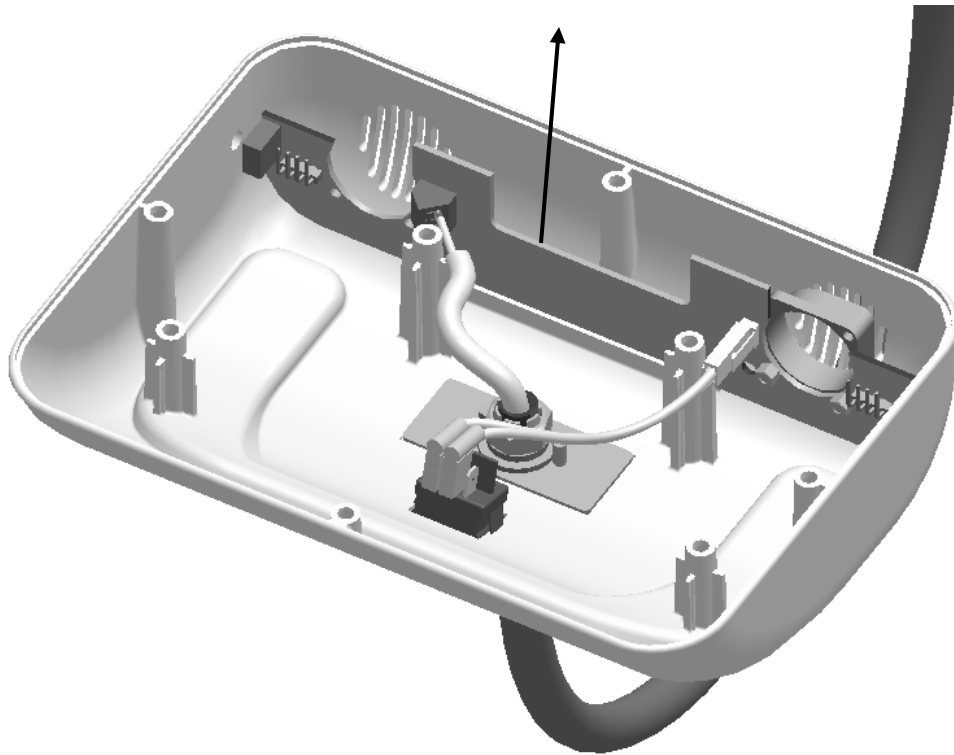

FIGURE 4
2. Remove the Current PCB by pulling it out of the light enclosure as shown in figure 4.